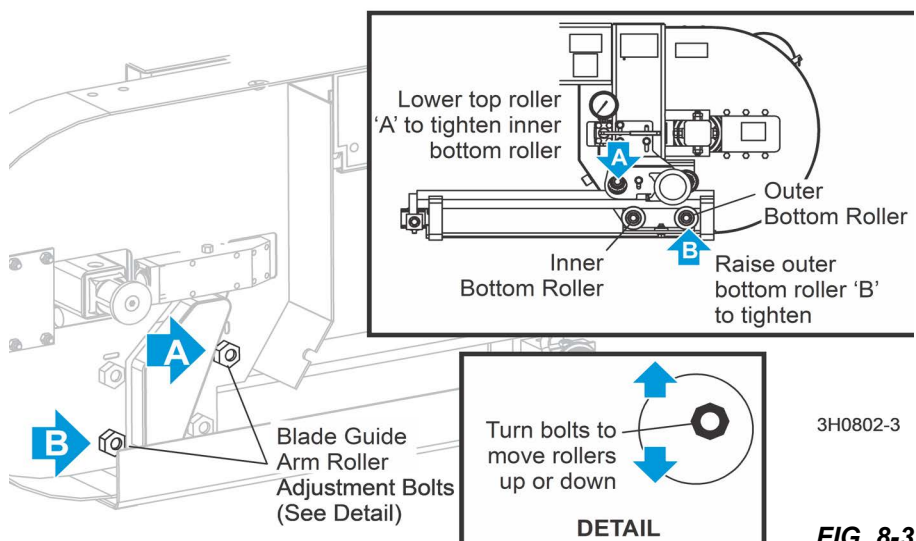

FIG. 8-3
6. If the outer lower roller is loose, adjust the outer lower roller up. See FIG. 8-3.